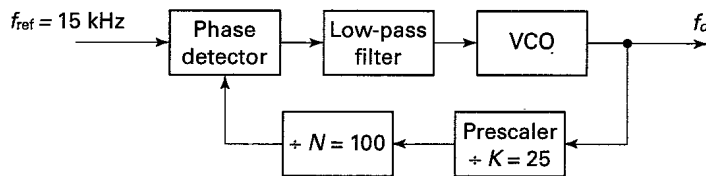

Fig. 2-38
2.53 In Fig. 2-38, what is  $f_o$ ?    Ans.  $f_o = 37.5 \text{ MHz}$
2.54 In Fig. 2-38, assume  $N$  is variable between 50 and 75. Calculate: (a)  $f_{o(\min)}$ , (b)  $f_{o(\max)}$ , (c)  $f_{\text{CH}}$ .